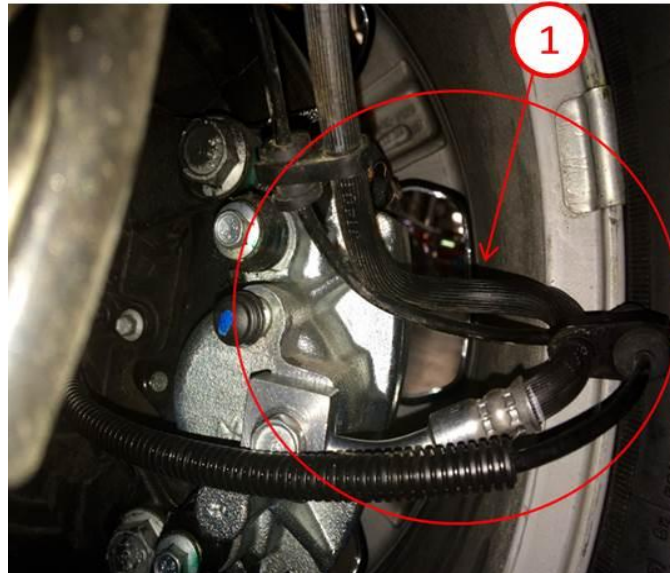

Fig. 1 Incorrectly Installed
3. Does the brake hose show signs of wear or leaking? (Fig. 1).